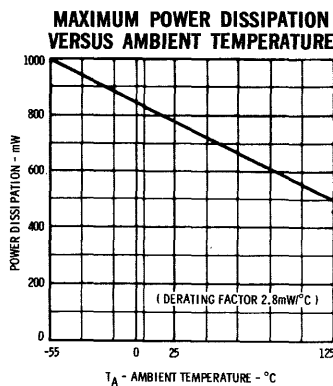

FIGURE 4
- (1) Derating factor as shown in Fig. 4 is 2.8 mW/ $^\circ\text{C}$.